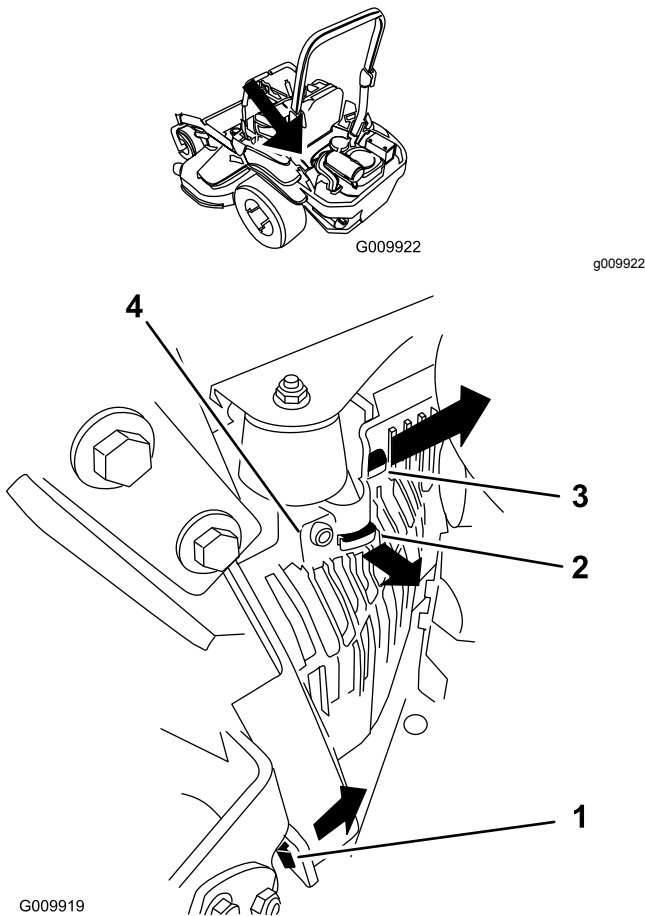

Figure 55
3. Remove the left hydraulic-unit shroud in the order listed with Figure 55. This gives you access to the front spark plug.
5. Install the left hydraulic-unit shroud (Figure 55).